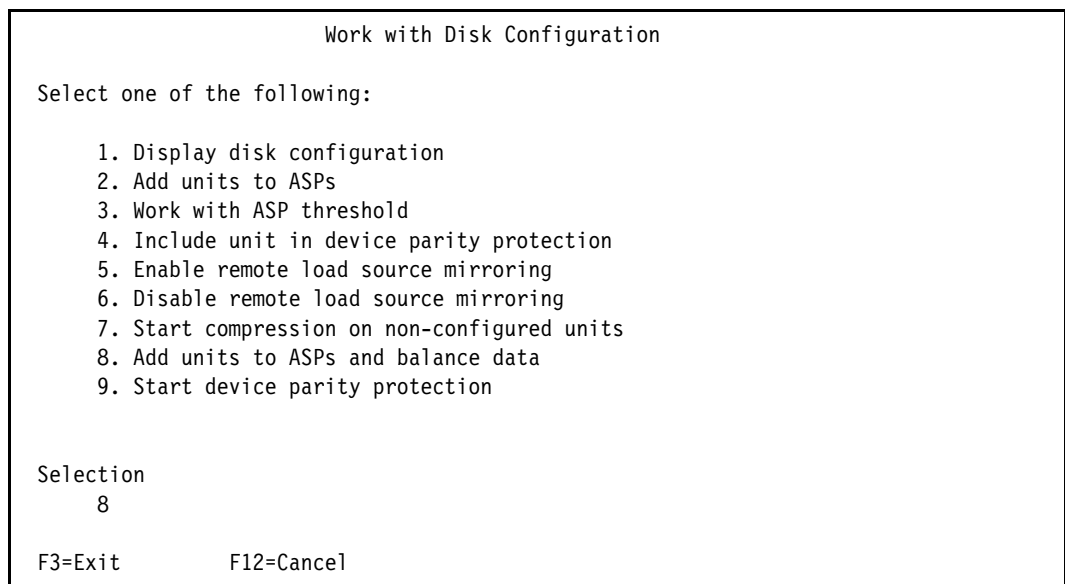

Figure B-3 Work with Disk Configuration menu
4. When adding disk units to a configuration, you can add them as empty units by selecting Option 2 or you can choose to allow OS/400 to balance the data across all the disk units. Normally, we recommend balancing the data. Select Option 8, Add units to ASPs and balance data as shown in Figure B-3.